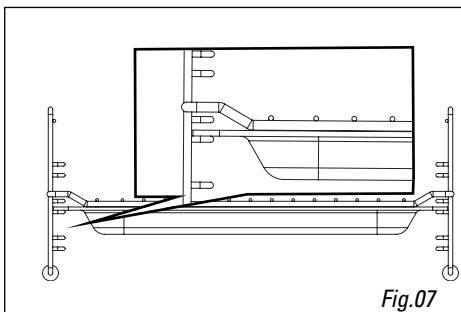

Fig.07
- The grill + the enamel tray:** for roasting and to collect cooking juices, place the grill on the enamel tray (Fig.07).